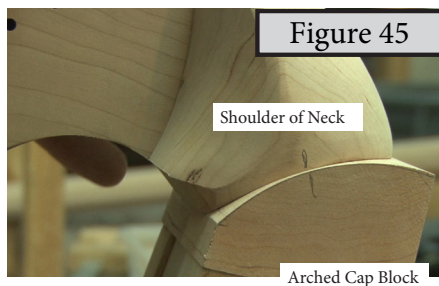

Figure 45
45) Stand the harp up, leaning it against your work table, so you can check the fit of the back of the neck on top of the soundchamber. Mark hash marks on both sides of shoulder and top of the arched cap. Connect marks across both pieces using a straight edge. Be sure that marks match on both the arched cap and shoulder. (Figure 45 & 45a)
Use a brad-point bit for drilling this hole if you can. Twist bits are OK, but they tend to wander more than a brad-point. (Figure 45)